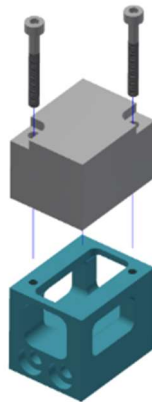

Figure 6-15. Remove two M3 X 0.5 X 60 LG. SHSS from the On Board DAS Structural Replacement and Mounting Bracket (474-3009-A and 474-3001-A)
- 6.2.7 Remove two M3 X 0.5 X 60 LG. SHSS from the On Board DAS Structural Replacement and Mounting Bracket (474-3009-A and 474-3001-A) (Figure 6-15).